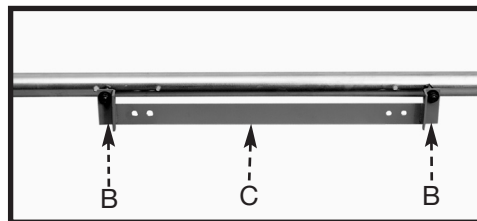

Fig. 12
4. Locate the lower rail assembly (Fig. 12), and remove one nut and washer (B) from each side. Remove the mounting bracket (C) Fig. 12.
NOTE: Discard the bracket, but save the two nuts and washers (B) Fig. 12. They will be used to mount the rail to the stand.